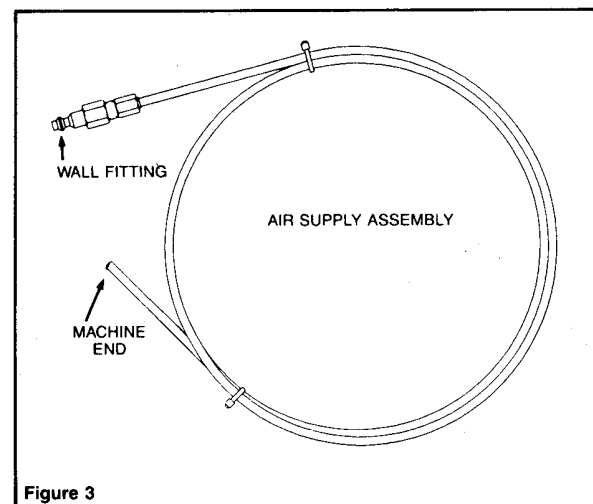

Figure 3
2. Insert the plain end of the air supply assembly tube into the tube fitting. (See Figure 3)